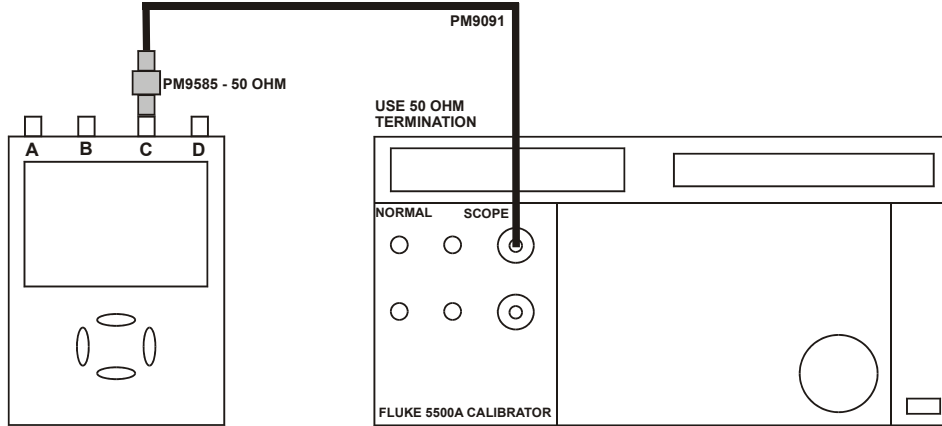

Figure 4-9. 5500A Scope Output to Test Tool Input C
1. Connect the Test Tool to the 5500A as shown in Figure 4-9.
1. Connect the Test Tool to the 5500A as for the previous test (see Figure 4-9).